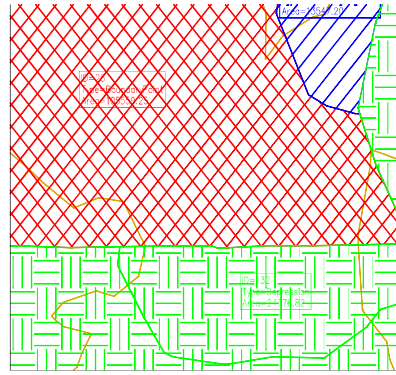

Figure 4-43 The watershed tag for the given watershed
9. Zoom in to view the watershed tag in each area, refer to Figure 4-43. The watershed tag displays the ID, type, and area of the watershed.